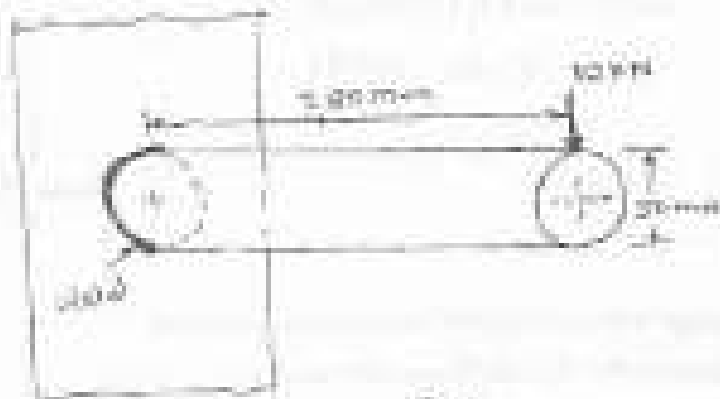

Fig. 1
- b) A 50 mm diameter solid shaft is welded to a flat plate as shown in Fig. 1. If size of the weld is 15 mm. Find the maximum normal and shear stress in Weld. Refer Sketch. [8]